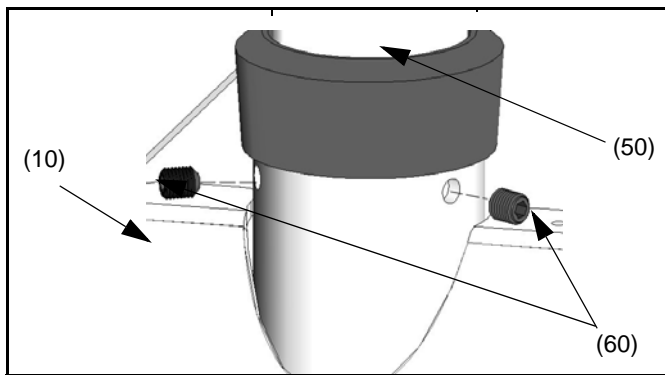

Figure 6: Secure Tube(s)
2. Secure tubes (50) using four 5/16-18 X 3/8 socket head set screws (60), (see figure 6).